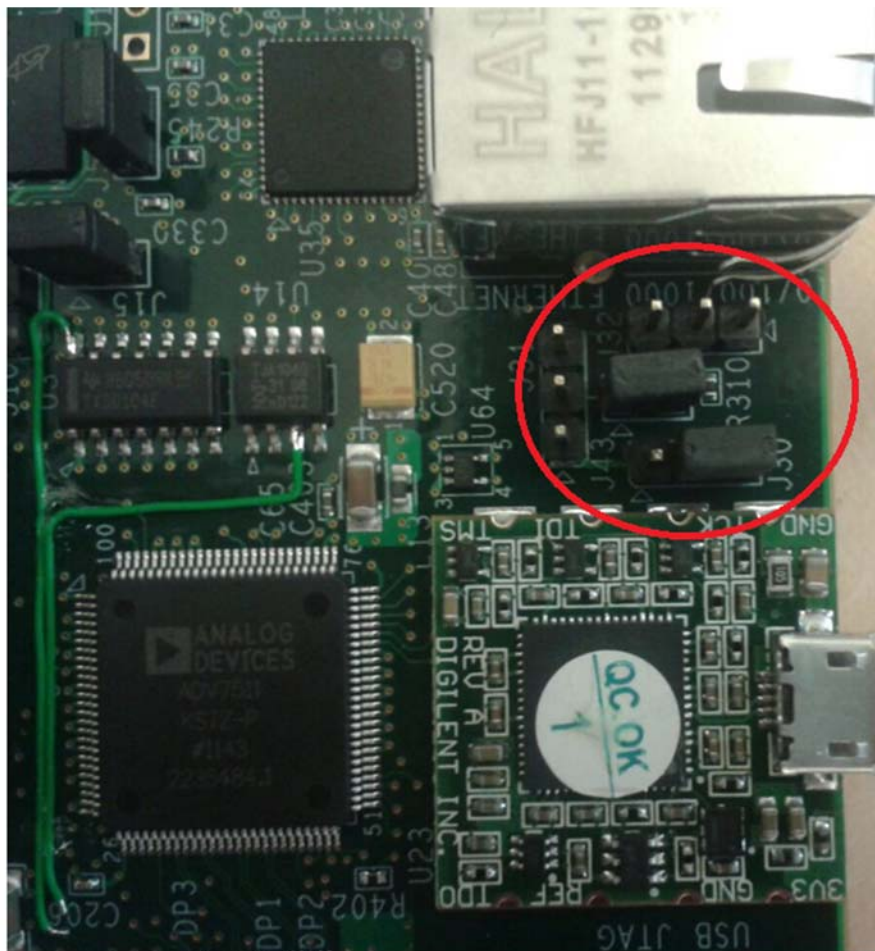

Figure 5-2: Change Jumpers J30 and J43
- Change Ethernet Jumper J30 and J43 as shown in Figure 5-2.